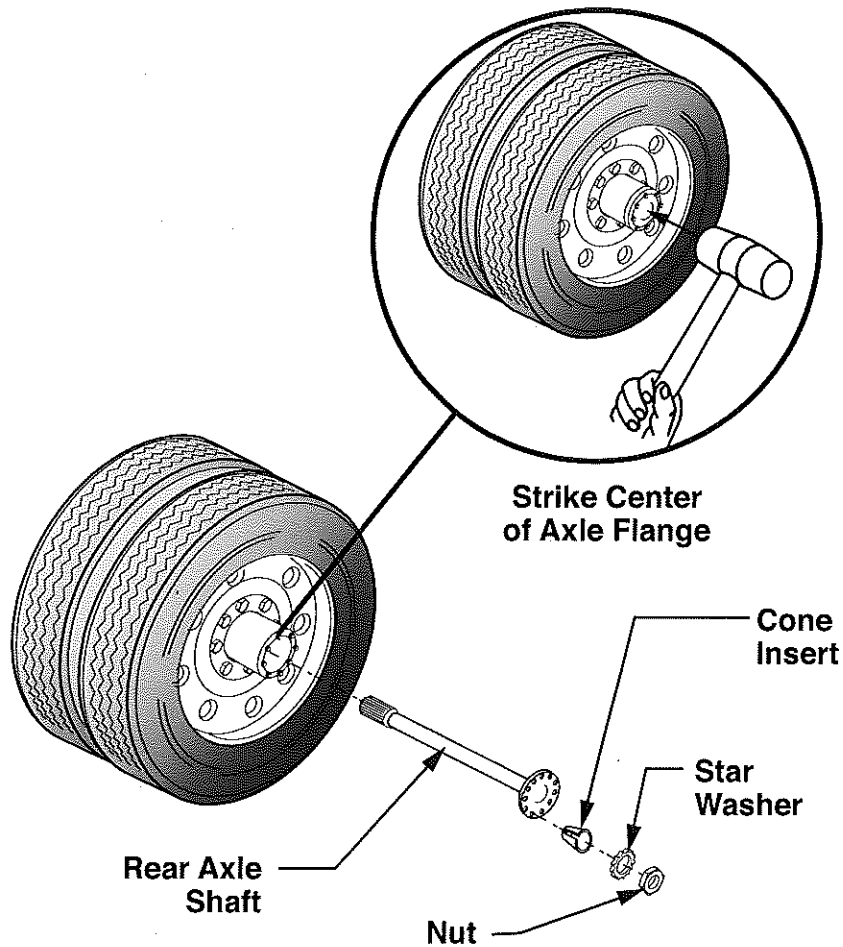

Figure 1-15, Axle Shaft Removal
2. Strike the center of the flange with a lead hammer to loosen the flange and dowels from the studs (Figure 1-15). An alternative method is to use a large hammer (5 to 6 pounds) against a 1.5" brass drift or a 1.5" brass mallet used as a drift.